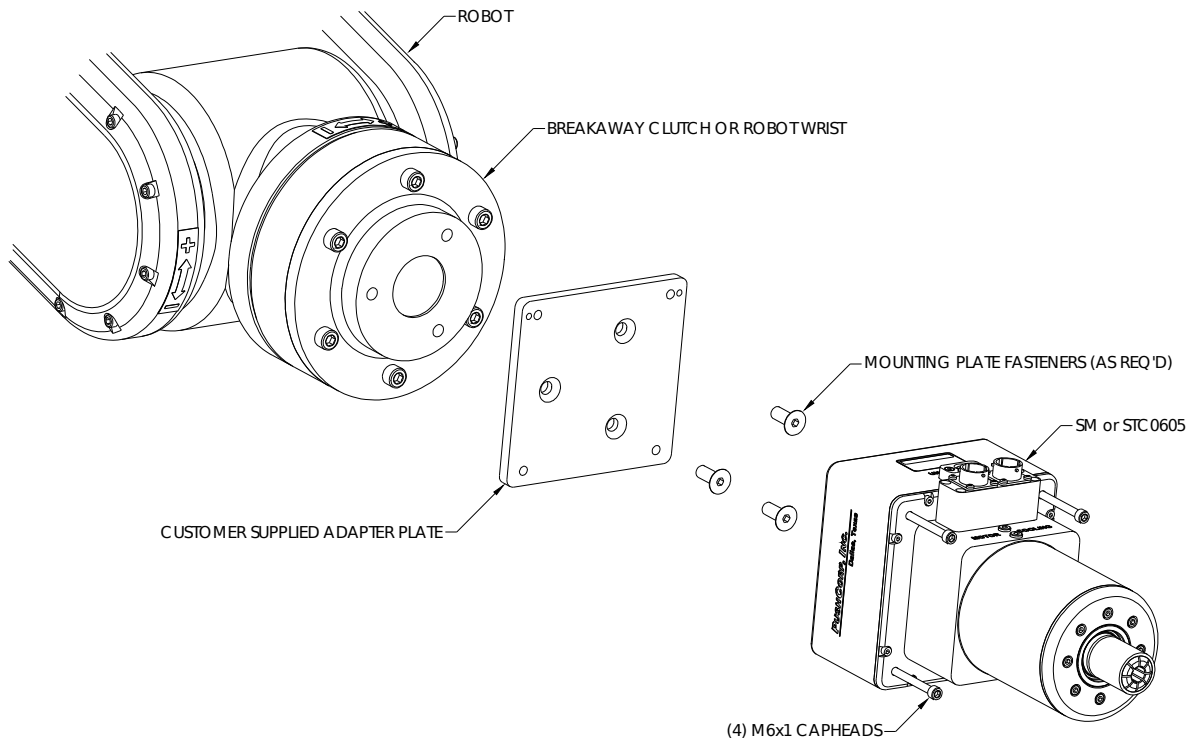

Figure 3. STC0605 Direct Mounting
To mount the 0605, first attach the customer supplied Mounting Plate to the Robot Mounting Flange or to the Breakaway Clutch, per the manufacturer's specifications. Once the Mounting Plate is secured, place the 0605 Series against the Mounting Plate and install (4) four, M6x1, Socket Head Cap Screws (length is dependent on motor SM0605 = 25mm, STC0605 = 100mm, STC0605-BT30 = 145mm). (See Figure 3.) Tighten the fasteners to the torque specified in Section 4.0.